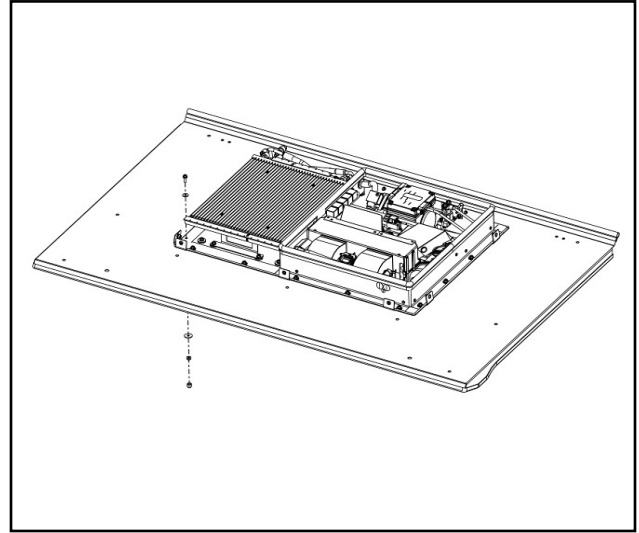

Fig. 11.1 Install A/C Unit
- 11.1** With assistance, place the air conditioner unit onto the roof, center it inside of the roof's rectangular opening. See figure 11.1.